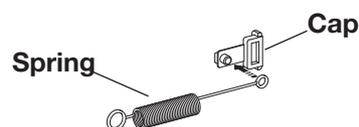

Fig. 8
- Fit the small eyelet of the spring, with the long stem, on the cap pin (2 caps + 2 springs for each grid). Fig. 8